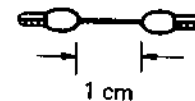

Fig. 3-2A Shorting clip
- 9) Shorting clip for detector transformer (Fig. 3-2A)The above equipment is required for Tuner & IF Board adjustments.